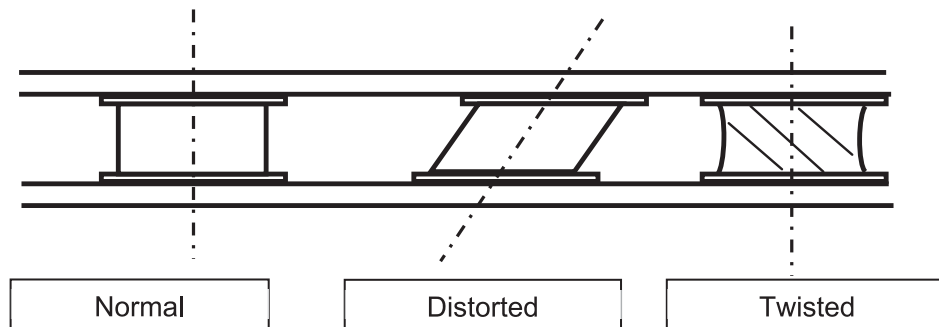

Figure 7 – Installation example of rubber vibration isolator
- (1) If the product has a rubber vibration isolator, make sure that the upper and lower holes are positioned in a vertical line and that no part of the rubber is twisted or distorted, as shown in Figure 7.